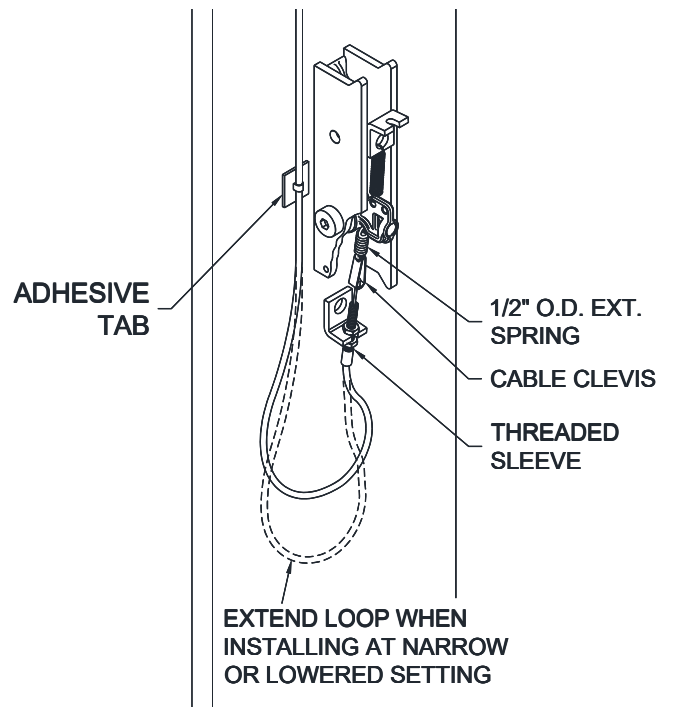

Fig. 14 – Idler Column Lock Assembly
- 35) Attach Adhesive-Backed Tab to Idler Column left of the lock assembly (**Fig 14**). Route Lock Release Cable down left side of Idler Column and secure with loosely fit wire tie to Adhesive-Backed Tab. Attach Cable clevis to 1/2" O.D. Extension Spring.
- 36) Insert threaded sleeve portion of cable assembly in slot located on tab below lock pawl, **Fig. 14**. With one jam nut located on each side of tab, adjust the threaded sleeve to begin to pull tension on the 1/2" O.D. spring. Snug jam nuts by hand.